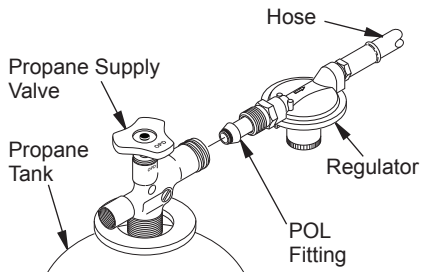

Figure 4 - Regulator Position
IMPORTANT: Position regulator so that hose leaving the regulator is in a horizontal position (see Figure 4). This places the regulator vent in the proper position to protect it from the weather.
3. Connect hose to valve inlet (see Figure 4, page 6). Tighten firmly using a wrench.